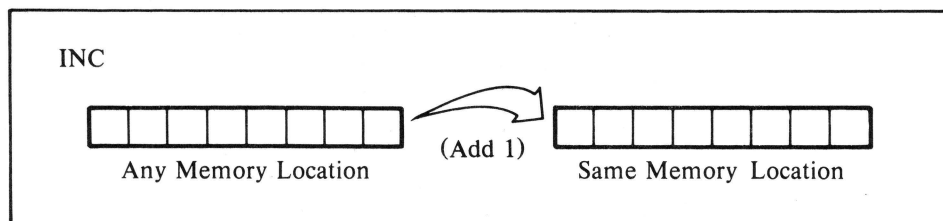

Figure 9-1. Increment memory quantity
- **INC** — Increments (adds 1 to) the quantity in a specified memory location (see Figure 9-1).